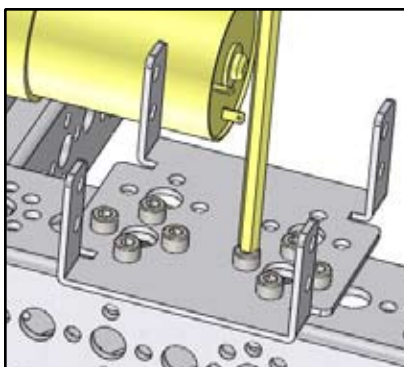

Figure B8
- 1) Determine where on the chassis you want to place the servos. Using 1/2" SHCSs and kep nuts, attach the double-servo motor bracket to the chassis (Figure B8).